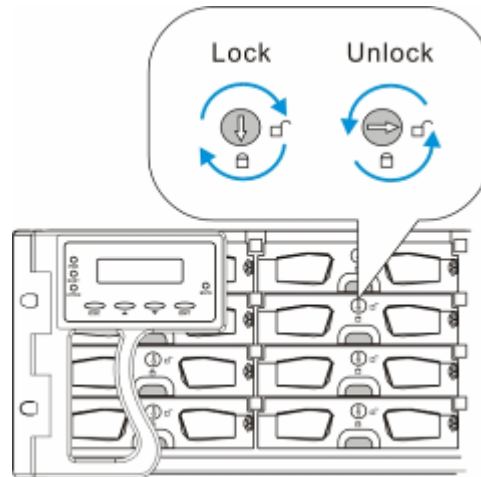

Figure 2-9: Drive Tray Key-Lock Rotation
Step 5. **Lock the flap into place** by turning the rotary bezel lock until the groove on its face is pointing down (vertical orientation). (See *Figure 2-9*)